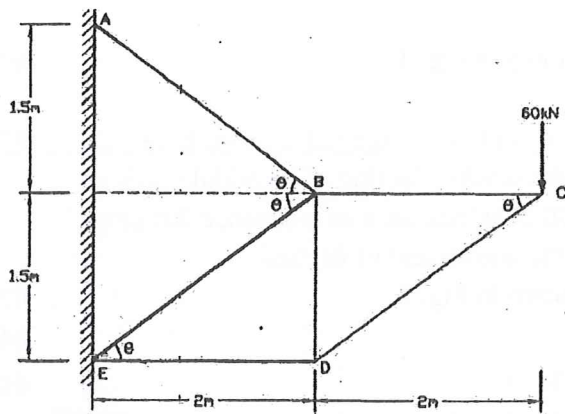

Fig. 1
- (b) Find the forces in all members of the truss shown in Fig. 1. 07